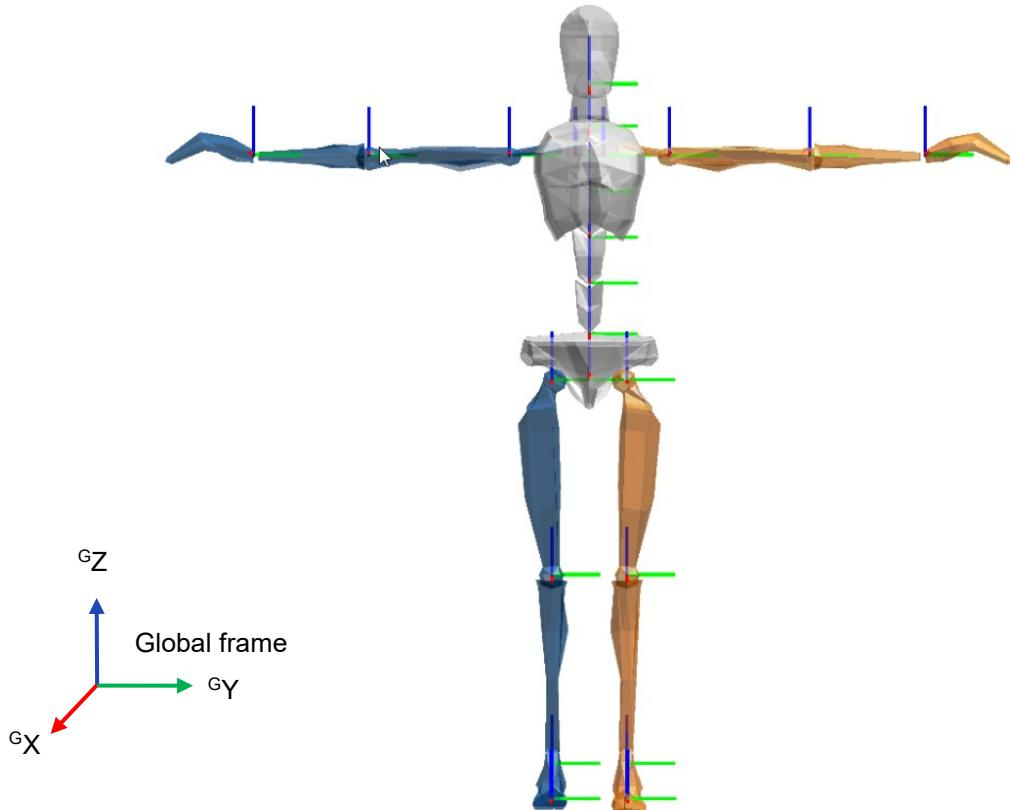

Figure 55: Segment coordinate system at each segment origin, as is used in MVN. Legend: x: red, y: green, z: blue
The axes of each body frame (B) are aligned with this Global reference frame (G) when the subject is standing in the T-pose as shown in Figure 55.
The section <segments> defines all positions (pos_b) of connecting joints (prefixed with a "j") and anatomical landmarks (prefixed with a "p") with respect to origin of that segment (in body frame B). The body frame (B) of this list of points is defined by Figure 55.